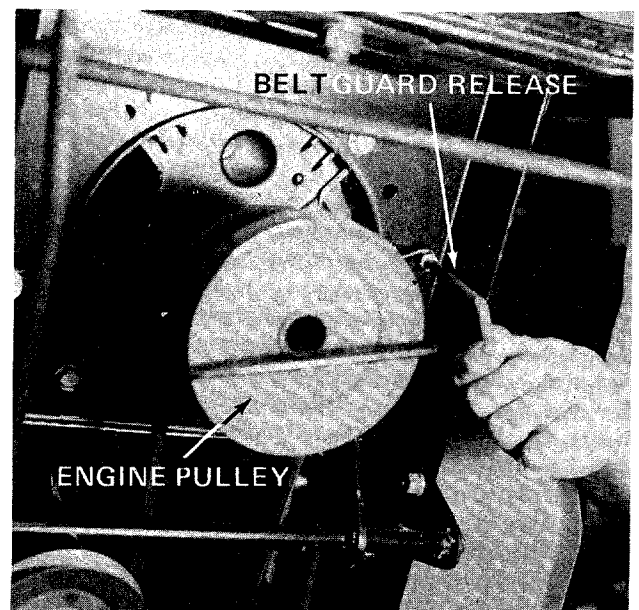

FIGURE 23.
3. Unscrew the belt guard release next to the engine pulley. See figure 23.